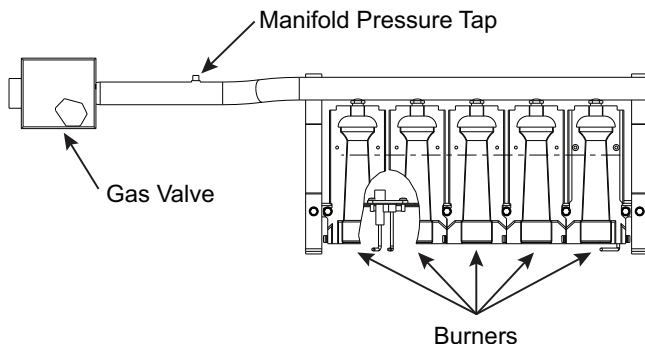

Fig. 53 — Burner Tray Details
10. Slide the burner tray out of the unit (see Fig. 53).
2. Remove manifold pressure tap plug from manifold and connect pressure gauge or manometer. (See Fig. 53.)
11. Turn off unit, remove pressure manometer and replace the manifold pressure tap plug. (See Fig. 53.)